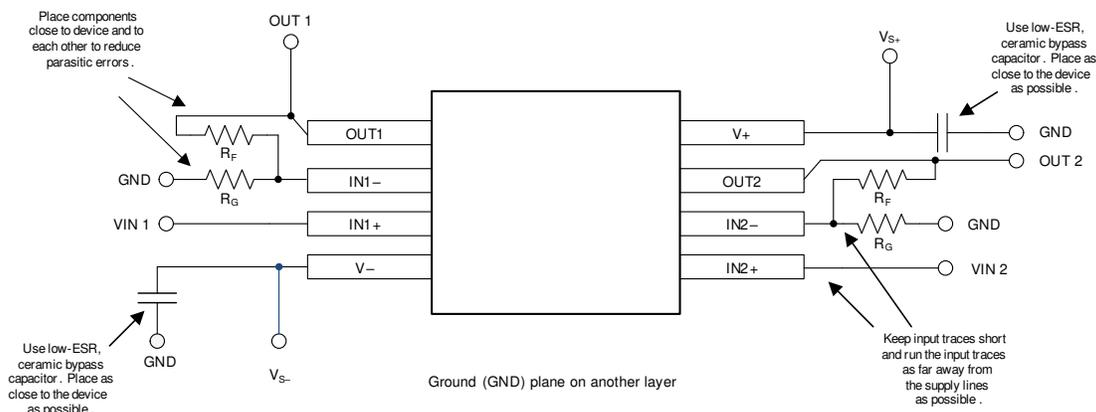

图 10-2. Layout Example
- Place the external components as close to the device as possible, as shown in Figure 10-2. Keeping R_F and R_G close to the inverting input minimizes parasitic capacitance.